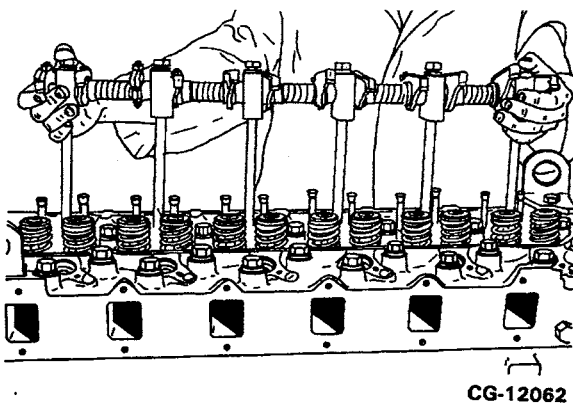

Figure 4.69. Install the Rocker Arm Assembly
- a. Insert the rocker arm and shaft assembly with the long cylinder head bolts into their respective bolt holes. Refer to Figure 4.69.